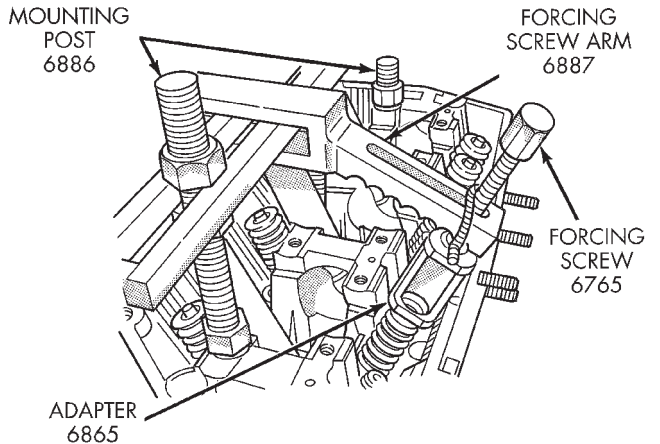

Fig. 42 Valve Springs—Removing and Installing
- (1) Remove rocker arm shafts assemblies as previously outlined in this section.
- (2) Rotate crankshaft until piston is at TDC on compression.
- (3) With air hose attached to adapter tool installed in spark plug hole, apply 90-120 psi air pressure.
- (4) Use Special Tool MD-998772A with Mounting Post 6886, Forcing Screw Arm 6887, Forcing Screw 6765 and adapter 6865 (Fig. 42) to compress valve springs and remove valve locks.
- (5) Remove valve spring.
- (6) Remove valve stem seal by using a valve stem seal tool.
- (2) Use Special Tool MD-998772A with Mounting Post 6886, Forcing Screw Arm 6887, Forcing Screw 6765 and adapter 6865 (Fig. 42) to compress valve springs only enough to install locks. Correct alignment of tool is necessary to avoid nicking valve stems (air pressure required), piston at TDC.